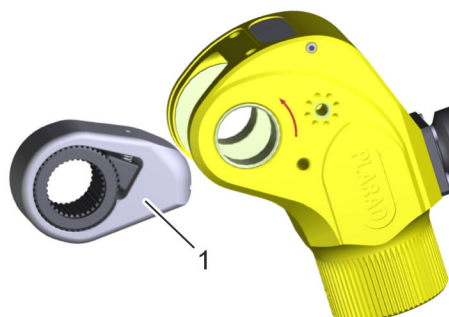

Fig. 34: Ratchet lever
9. ➔ Take out the ratchet lever (Fig. 34/1).